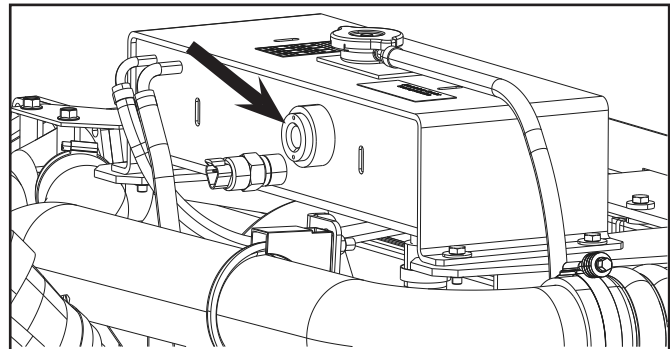

Figure 292
1. Check coolant level in level glass on the expansion tank. (See the black arrow on figure 292 and 293).